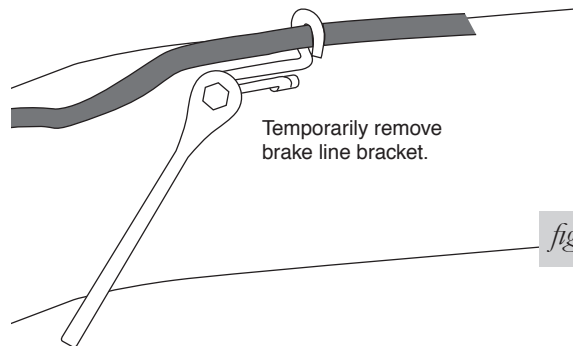

fig. 5
2. On the Driver Side only, unbolt the emergency brake cable. Remove the nut and cable bracket and pull the cable loose from the frame (Fig. 5). Hold onto fasteners so that the cable bracket can be reattached later.